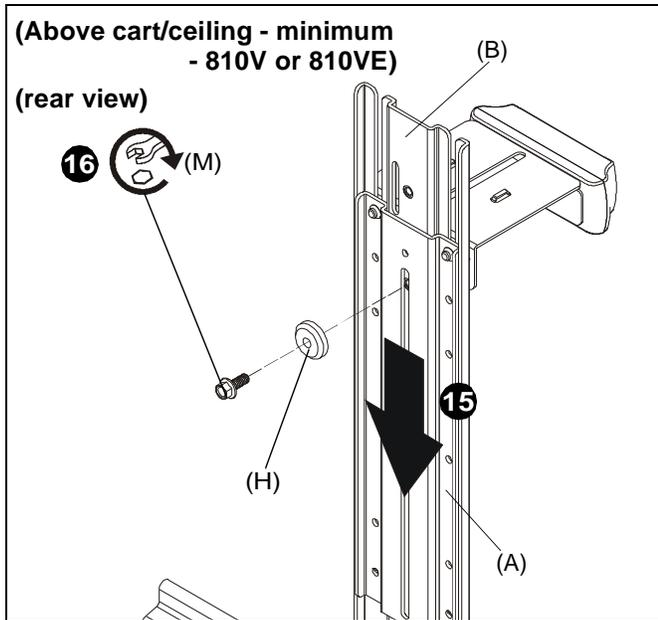
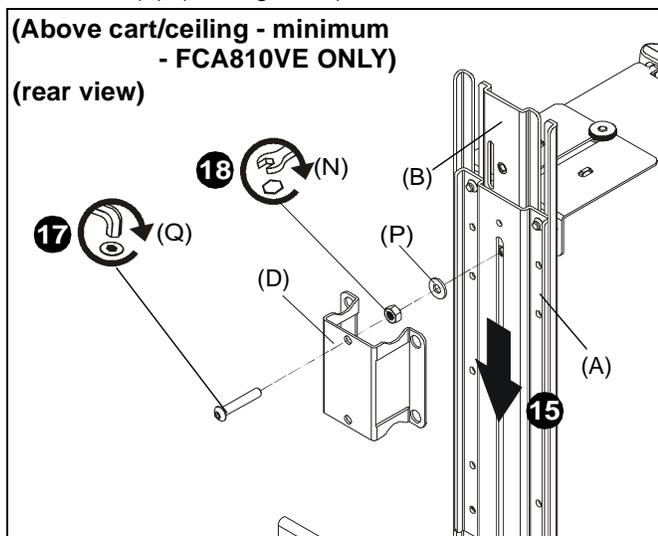

Figure 31
Figure 32
**NOTE:** For minimum extension on the FCA810VE model, the extender box holder (D) may be installed as part of the installation of the camera mount to the main bracket. Skip Step 16 if mounting the FCA810VE to minimum extension and installing the extender box holder (D).
15. (For **minimum extension**) Slide upright bracket (A) behind main bracket (B). (See Figure 31) or (See Figure 32)
16. (For **minimum extension - 810V or VE**) Use 1/4-20 x 5/8" hex head flange bolt (M) and center washer (H) to secure upright bracket (A) to main bracket (B). (See Figure 31)
17. (For **minimum extension - 810VE only**) Use 1/4-20 x 1 1/2" button head cap screw (Q), 1/4-20 hex nut (N) and large washer (P) to secure extender box holder (D) and upright bracket (A) to main bracket (B). (See Figure 32)
18. (For **minimum extension - 810VE only**) Tighten 1/4-20 hex nut (N) to fully secure upright bracket (A) to main bracket (B). (See Figure 32)